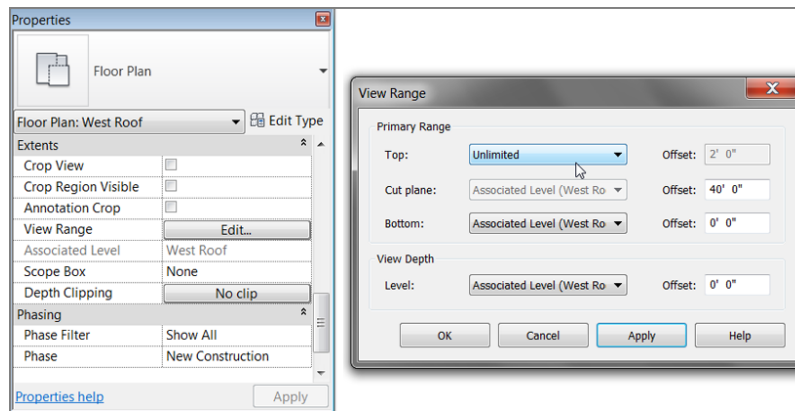

FIGURE 7.43: Setting the view range
4. Set the Cut Plane Offset to 40' 0" (12000mm), as shown in Figure 7.43.
5. Change the rest of the settings to reflect Figure 7.43.